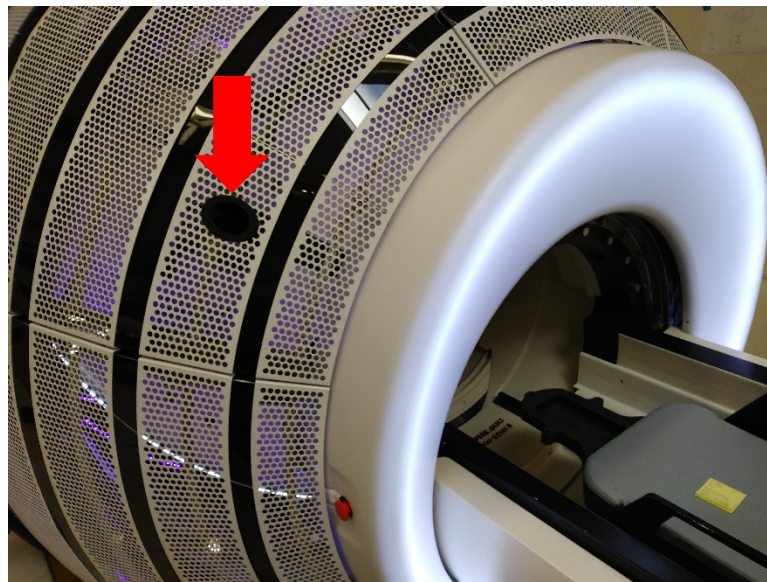

Figure 3-15 Location port for passing cables into the Zap-X System.
7. Carefully pass the ion chamber into the machine through the cable access hole near the door, being sure to provide enough cable to ensure proper operation (see Figure 3-15).
5. Carefully pass the necessary cables through the appropriate ports on the system (see Figure 3-15).